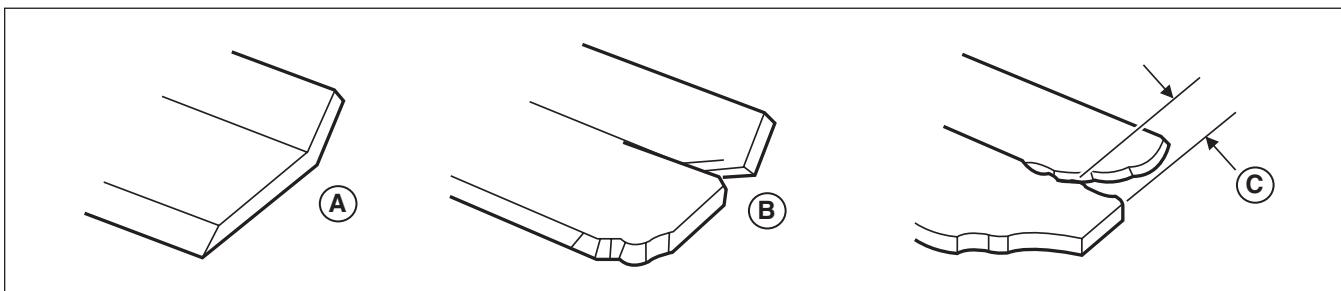

Figure 28. Inspecting the Mower Blade Air Lifts
- B.) The air lifts are excessively eroded (B & C, Figure 28) and the notch (C) is .25" (6,35 mm) deep or greater.